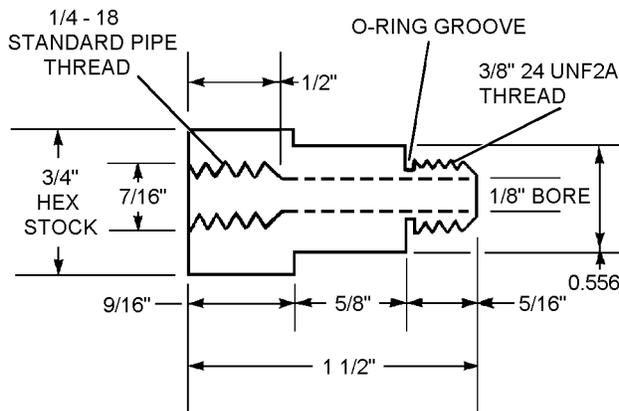

Figure 14-7. Brass Reducer Adapter
2. Install a thin strip of metal between the regulator body (142) and inlet manifold assembly (104) so that it depresses the inlet manifold stem.
3. Attach adapter fixture (figure 14-7) to the 0 to 160 psi pressure gage. Install gage, preformed packing (120) and gasket (119) into port normally occupied by demand valve feed port plug (118) (figure 14-8).